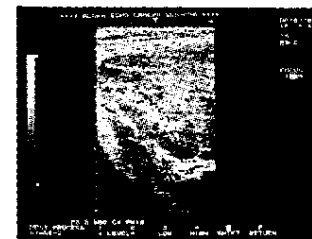

Fig. 6-4-34
- b. When the range is shifted downward using SHIFT from the LEVEL menu, the display becomes as shown in Fig. 6-4-34.